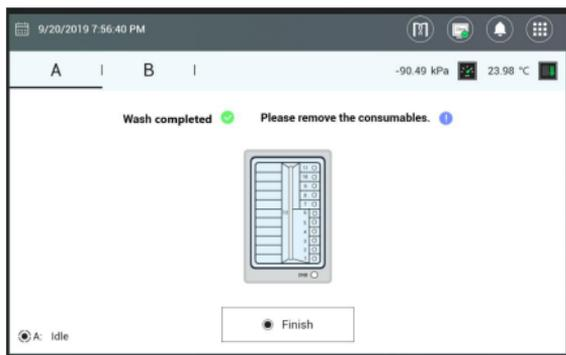

Figure 9-5: MGIDL-T7 Wash Completed Interface
- When the screen shown in Figure 9-5 appears, the wash is completed. Click “Finish” and another flow cell loading can be performed.